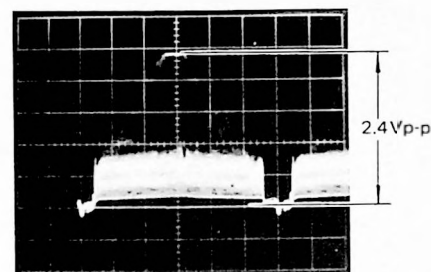

Fig. 4-4-2
- Adjust BEAM VR114 until the waveform is clipped at 2.4Vp-p. (Fig. 4-4-2)